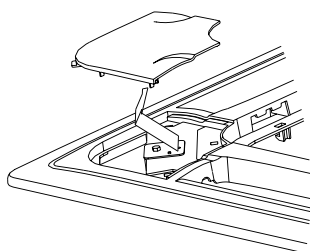

Fig.5-11
- Wrench off the bolts, loose the rope of the installation covers, and remove them. (Refer to Fig.5-11)